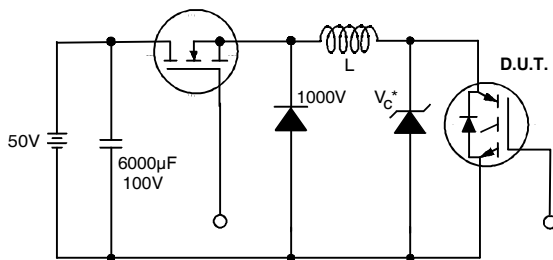

Figure 19. Clamped Inductive Load Test Circuit
- ② $V_{CC}=80\%(V_{CES})$, $V_{GE}=20V$, $L=10\mu H$, $R_G=100\Omega$ (figure 19)
- ③ Pulse width $\leq 80\mu s$; duty factor $\leq 0.1\%$.
- ④ Pulse width $5.0\mu s$, single shot.